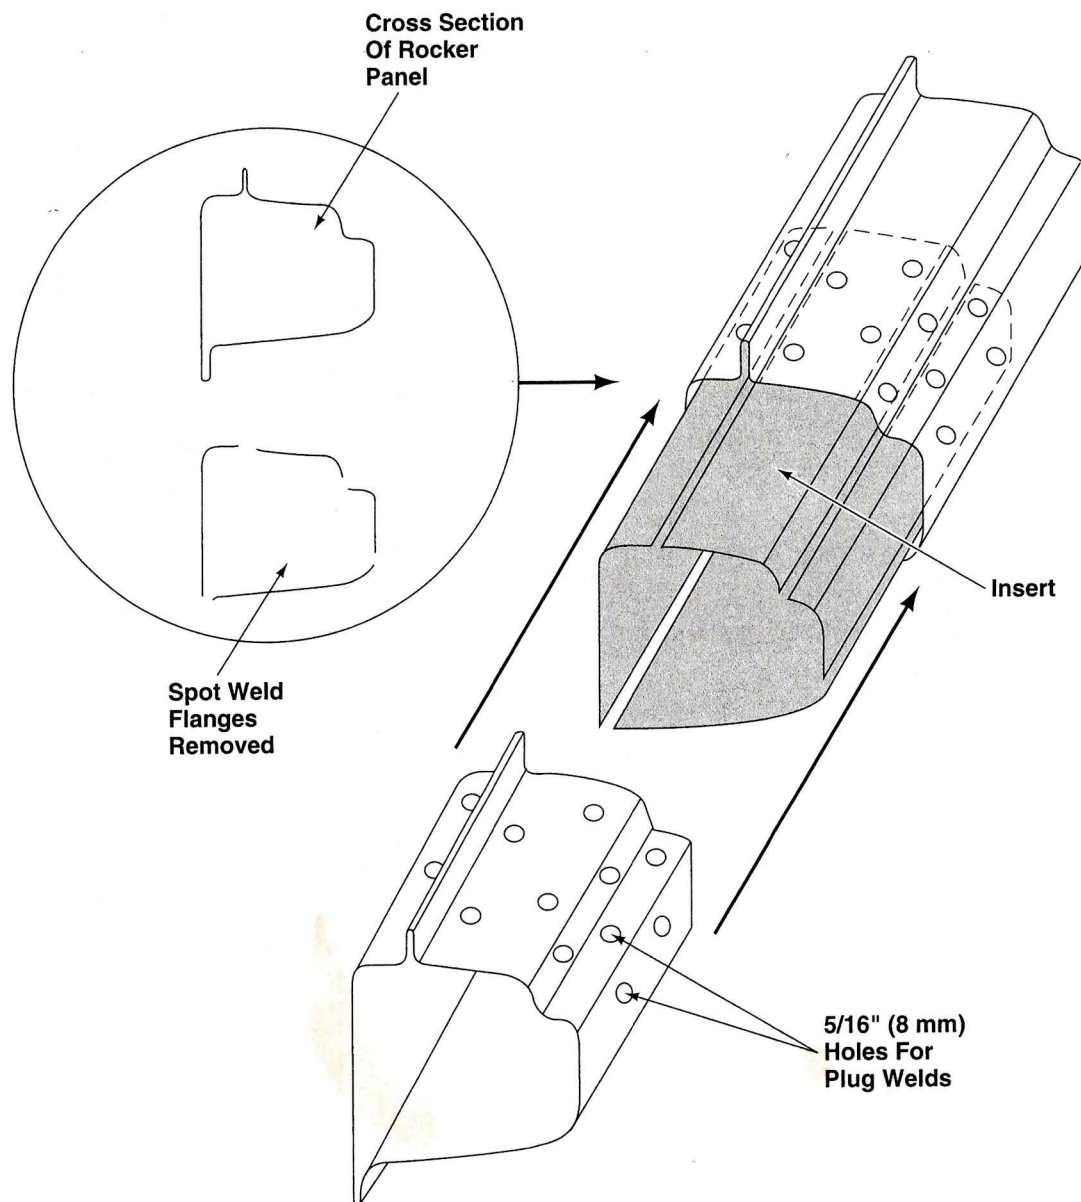

Figure 22-20 An insert can be made and used with a rocker panel replacement. (I-CAR)
4. Check the insert for fit, Figure 22-20.